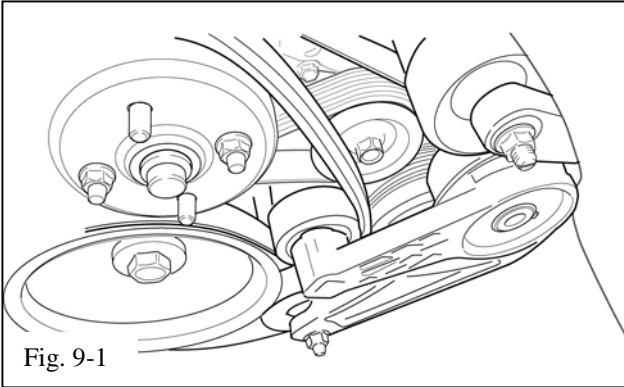

Fig. 9-1
- (a) Remove the 2 M10 nuts and then install the belt tensioner assembly (C1) onto the two double ended studs previously installed (Figs. 9-1 & 9-2).
- (1) Make sure both sides of the supercharger drive belt are free between the tensioner pulley and the upper idler pulley.
- (2) Reinstall the two M10 nuts (C7) finger tight.
- (g) Be sure the supercharger drive belt is on the bottom of the tensioner pulley (Fig. 9-1).